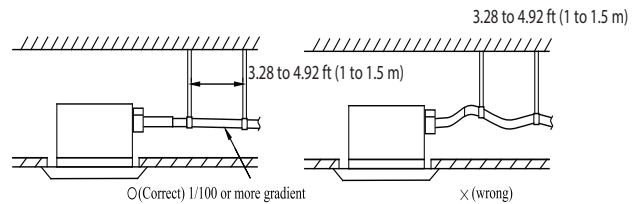

Fig. 61 - Drain Hose
- To prevent a bend in the drain hose, the distance between the hoisting stand should is 3.28 to 4.92 ft (1 to 1.5 m) (see Fig.61).